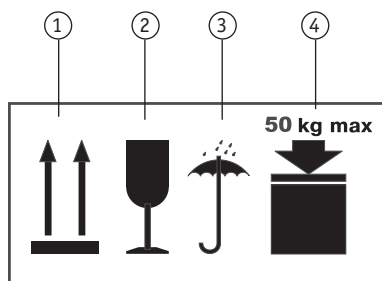

Figure 6
- Handling symbols for transport and storage of the delivery unit (Figure 6)